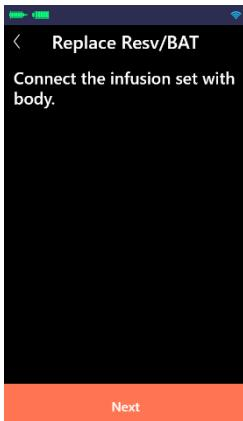

Figure A.8.4
(4) Connect the infusion set with body (as shown in Figure A.8.4). When it is completed, click "Next".